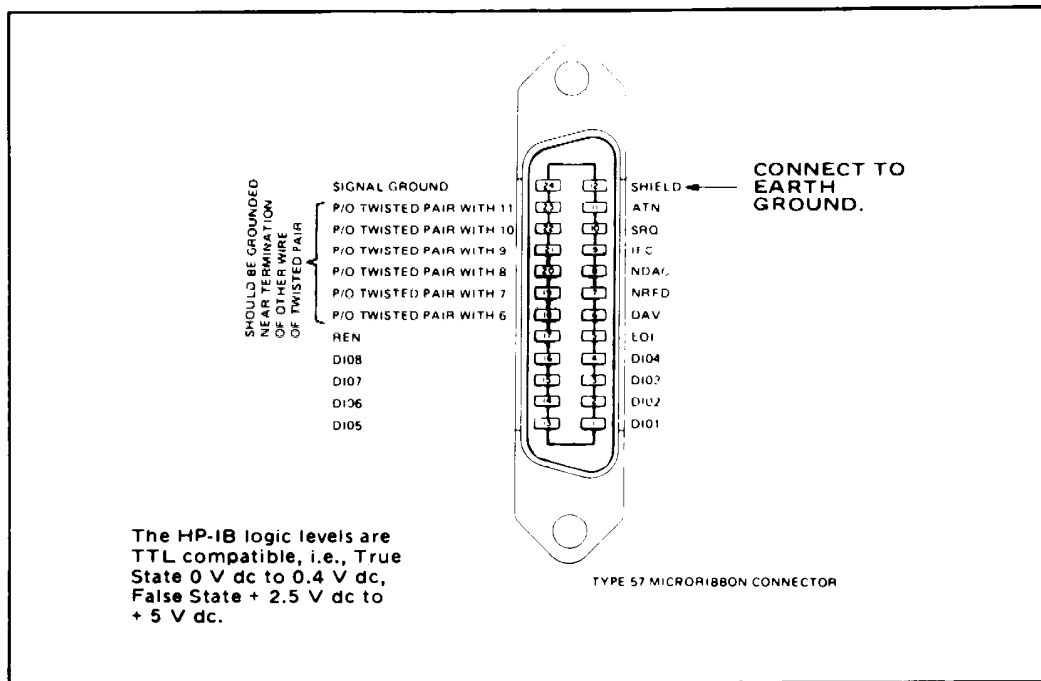

Figure 8-I-2. HP-IB Connector (A62J1).
8-I-10. The HP-IB bus uses "LOW = true" logic where LOW = \emptyset volts and HIGH (false) = + 3.5 volts. In REMOTE, with nothing connected to the rear panel HP-IB connector, all the active (non-grounded) pins on the HP-IB connector (see Figure 8-I-2) will be HIGH (pins 1-11 and 13-17). When A62S1 (2) is placed in TRACK (down), pins 1-4, 11, 13 and 14 will go LOW. If a scope is now used to observe the HP-IB data and control lines while changing the frequency of the 3586, the following pins will be seen to "wiggle": pins 1-4, 6, 11, 13-15, and 17. Use a slow sweep speed (e.g., 5 milli-seconds) on the scope and turn the FREQUENCY TUNE (RPG) control with AUTO or FREQ STEP selected to change the frequency and see the pulse trains. NOTE: The pulses are only present while the frequency is changing.